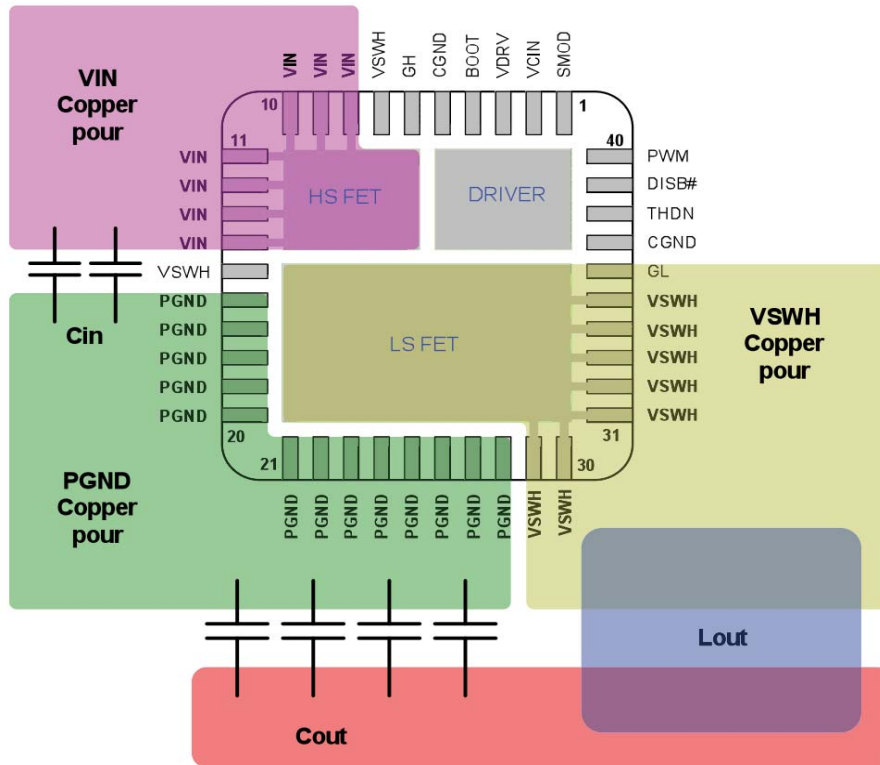

FIGURE 3. PCB LAYOUT FOR MINIMIZING CURRENT LOOPS
- Place multiple 10 μ F or greater ceramic capacitors directly at device between V_{IN} and PGND as indicated in Figure 3. This is the most critical decoupling and reduced parasitic inductance in the power switching loop. This will reduce overall electrical stress on the device as well as reduce coupling to other circuits. Best practice is to place the decoupling capacitors on the same PCB side as the device.
- Place PVCC, V_{CC} and BOOT-PHASE decoupling capacitors at the IC pins as shown in Figure 3.